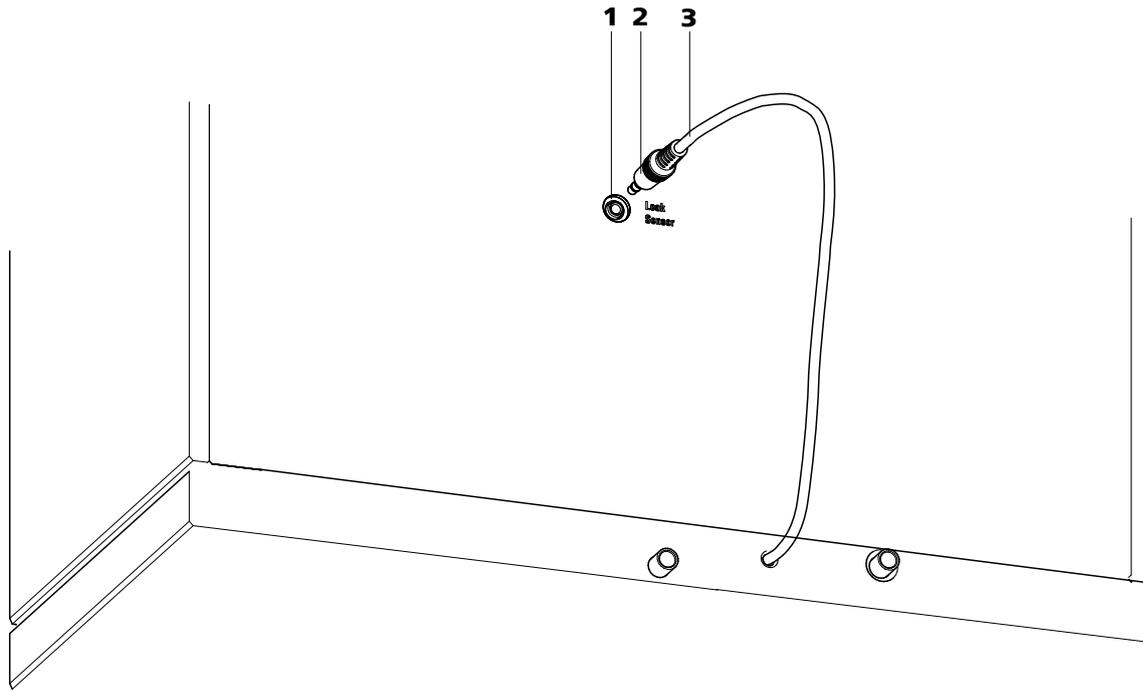

Figure 7 Connection for the leak sensor on the rear of the instrument
- 1 Plug the leak sensor connector plug (7-2) into the leak sensor connector socket (7-1) on the rear of the instrument (see Figure 7, page 22).